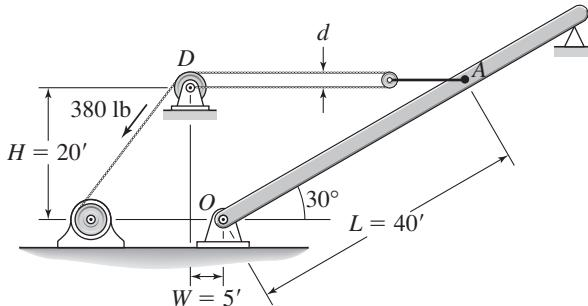

Figure P26
26. Consider the system for lifting a mast shown in Figure P26. The 70-ft-long mast weighs 500 lb. The winch applies a force $f = 380 \text{ lb}$ to the cable. The mast is supported initially at an angle of 30° , and the cable at A is initially horizontal. The equation of motion of the mast is